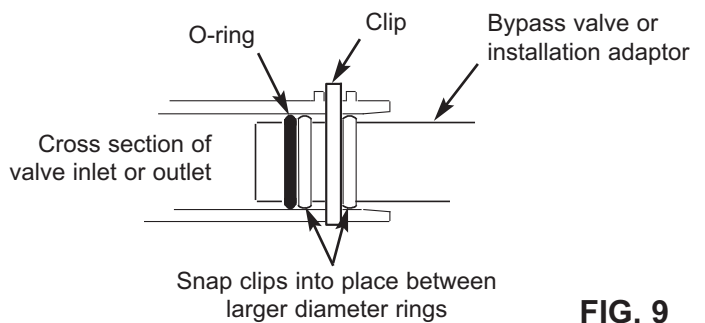

FIG. 9
- d. Snap the two large plastic clips in place on the inlet and outlet ports, from the top, down (See Figure 9). Be sure they snap into place. Pull on the bypass valve or installation adaptors, to make sure they are held securely in place.